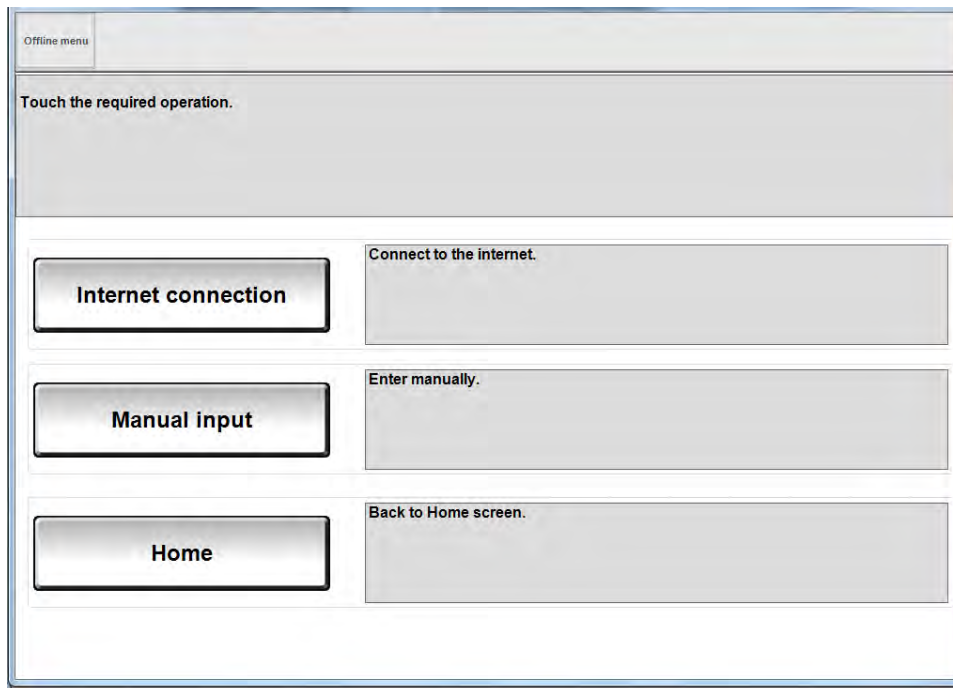

Figure 23
- If the CONSULT PC is not connected to the internet, the screen in Figure 23 will display.